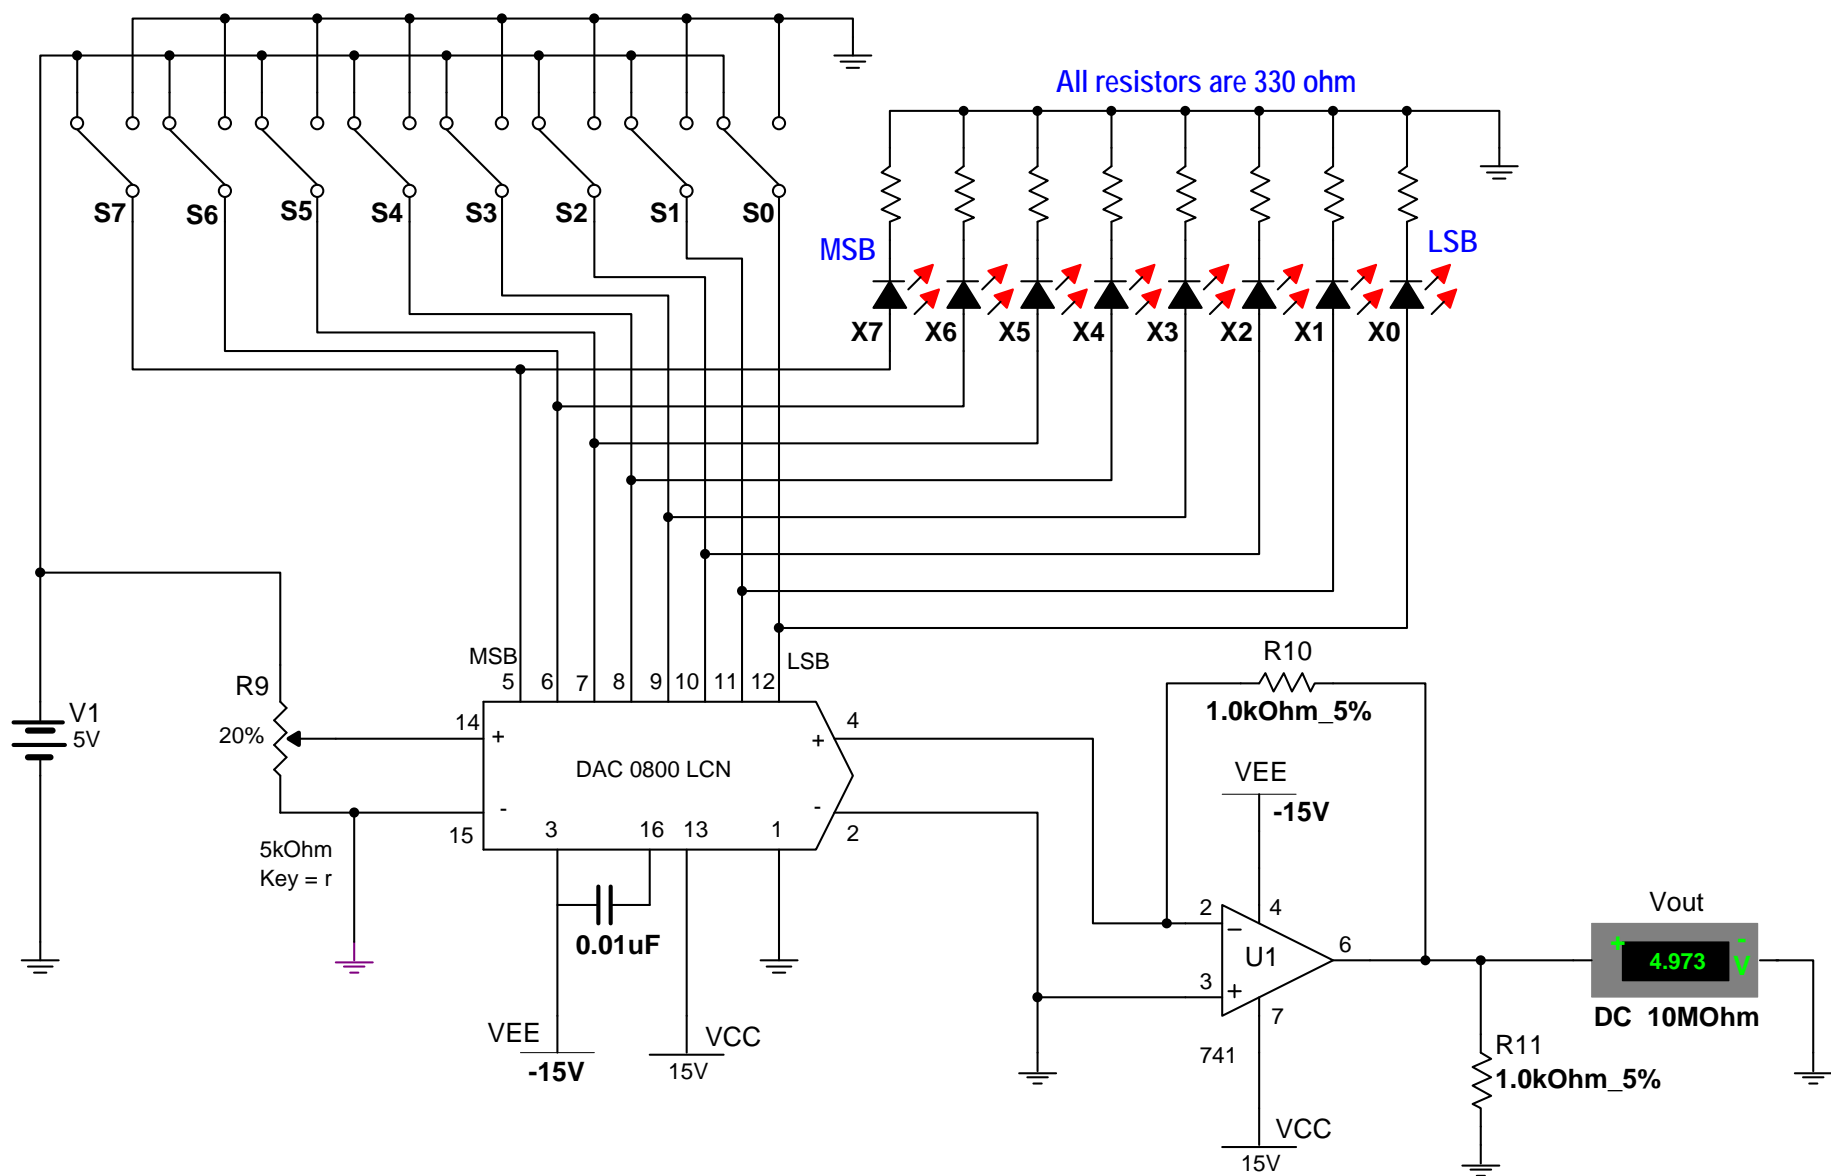

Figure 4-3. Schematic diagram of an IDAC using the DAC0800LCN DIP IC.
Now, you have tested the circuit to satisfy the problem statement using Multisim, it is time to hardwire the circuit shown in Figure 4-2 with real components. We will use the DAC0800 LCN DIP IC and whose schematic diagram is depicted in Figure 4-3.
1. Build the circuit indicated in figure 4-3 using a breadboard and actual components.